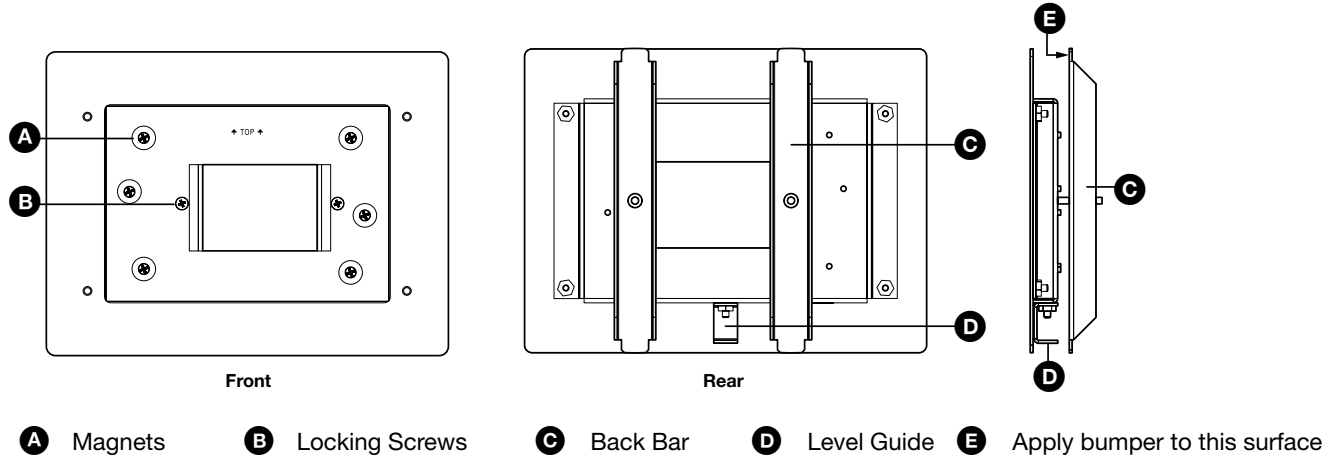
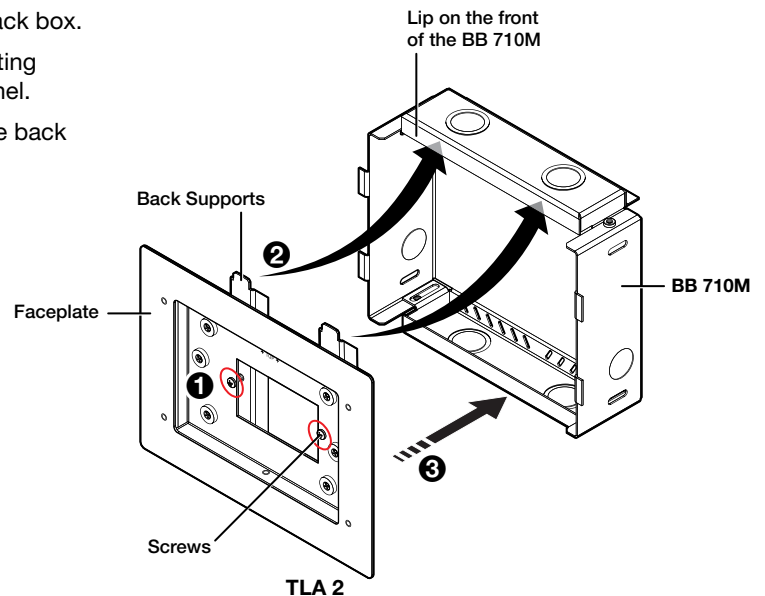

Figure 1. TLA 2 Front and Rear Panels
Figure 2. Installing the TLA 2 in a Back Box
Figure 2 shows how to install the TLA 2 into a preexisting back box.
2. Loosen the locking screws (see figure 1, **B**) holding the back bars (**C**) of the TLA 2 (see figure 2, **1**).
6. Make sure the TLA 2 is seated correctly. The level guide on the back of the unit (see figure 1, **D**) should sit on top of the lower lip of the back box.
2. If the drywall is less than 5/8" (16 mm) apply the four provided bumpers to the ends of the back bars on the inside surface (see figure 1, **E**, on the previous page).
7. The level guide on the back of the unit (see figure 1, **D**, on the previous page) should sit on top of the bottom edge of the hole.